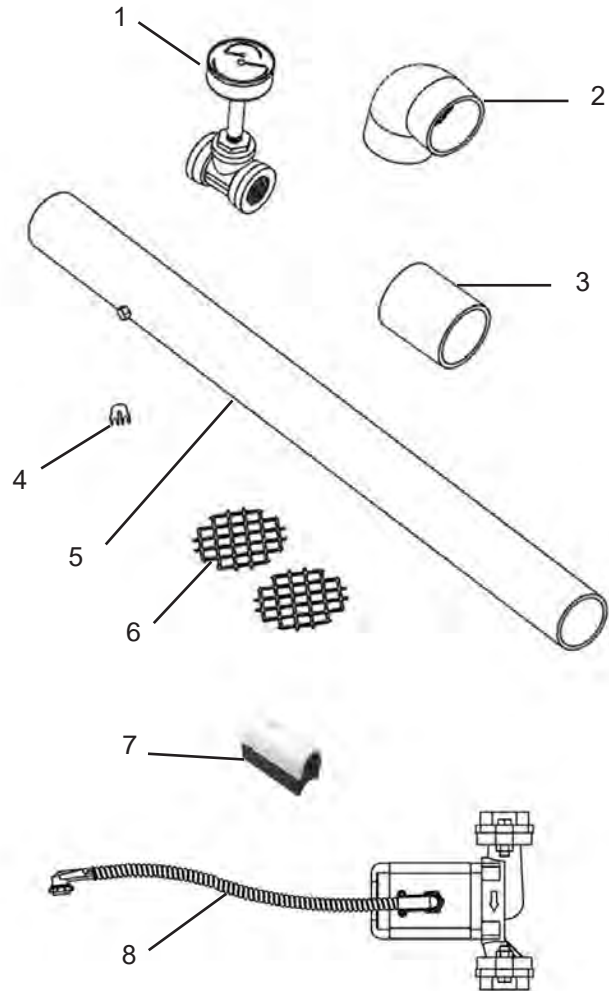

Figure 3. - Contents of Installation Kit
This residential unit is shipped in a single crate with a boxed installation kit that contains these components. (See **Figure 3**)
2. Check the contents of the box (the Installation Kit) to the items shown in **Figure 3**.